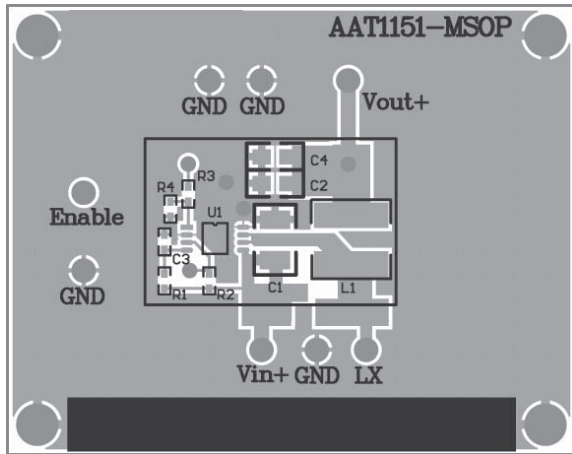

Figure 2: MSOP Evaluation Board Top Layer.
The input capacitor RMS ripple current reaches a maximum when V_{IN} is two times the output voltage where it is approximately one half of the load current. Losses associated with the input ceramic capacitor are typically minimal and are not an issue. Proper placement of the input capacitor can be seen in the reference design layout in Figures 2 and 4.
Figures 2 through 5 display the suggested PCB layout for the AAT1151. The following guidelines should be used to help ensure a proper layout.
- Low pass filter R1 and C3 provide a cleaner bias source for the AAT1151 active circuitry. C3 should be placed as closely as possible to SGND (Pin 2) and VCC (Pin 4). See Figures 2 and 7.